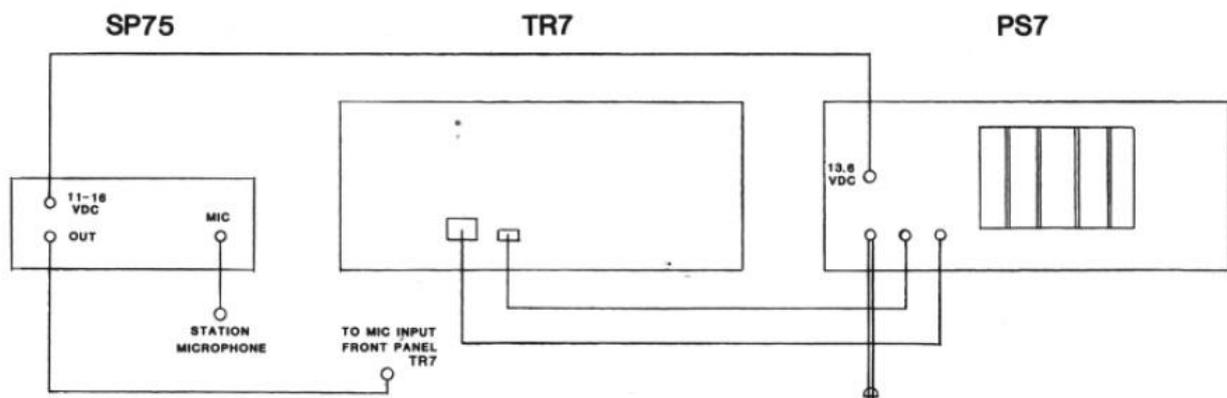

Figure 1 Connecting SP75 to TR7 and PS7
- Fig. 1 Conectando SP75 a TR7 y PS7